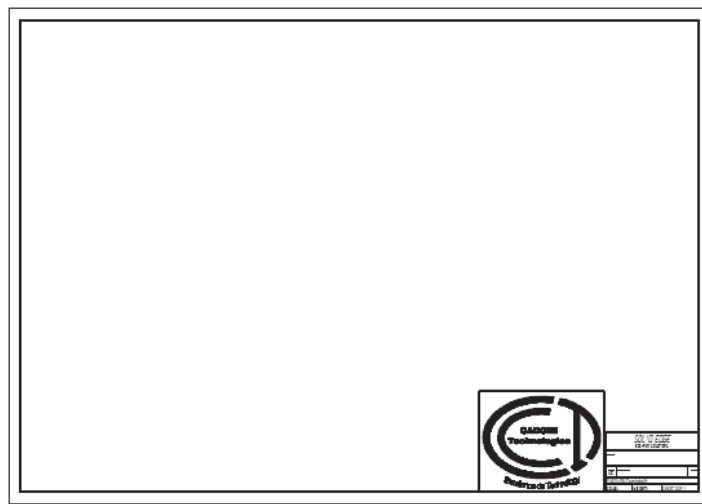

Figure 11-34 Title block with the image
- b. Set up the drawing sheet and the background sheet, refer to Figure 11-34.
13. Click on the drawing sheet to place the image. Drag the image and place it, as shown in Figure 11-34. The size of the image can be modified using the handles available on the image when it is selected.